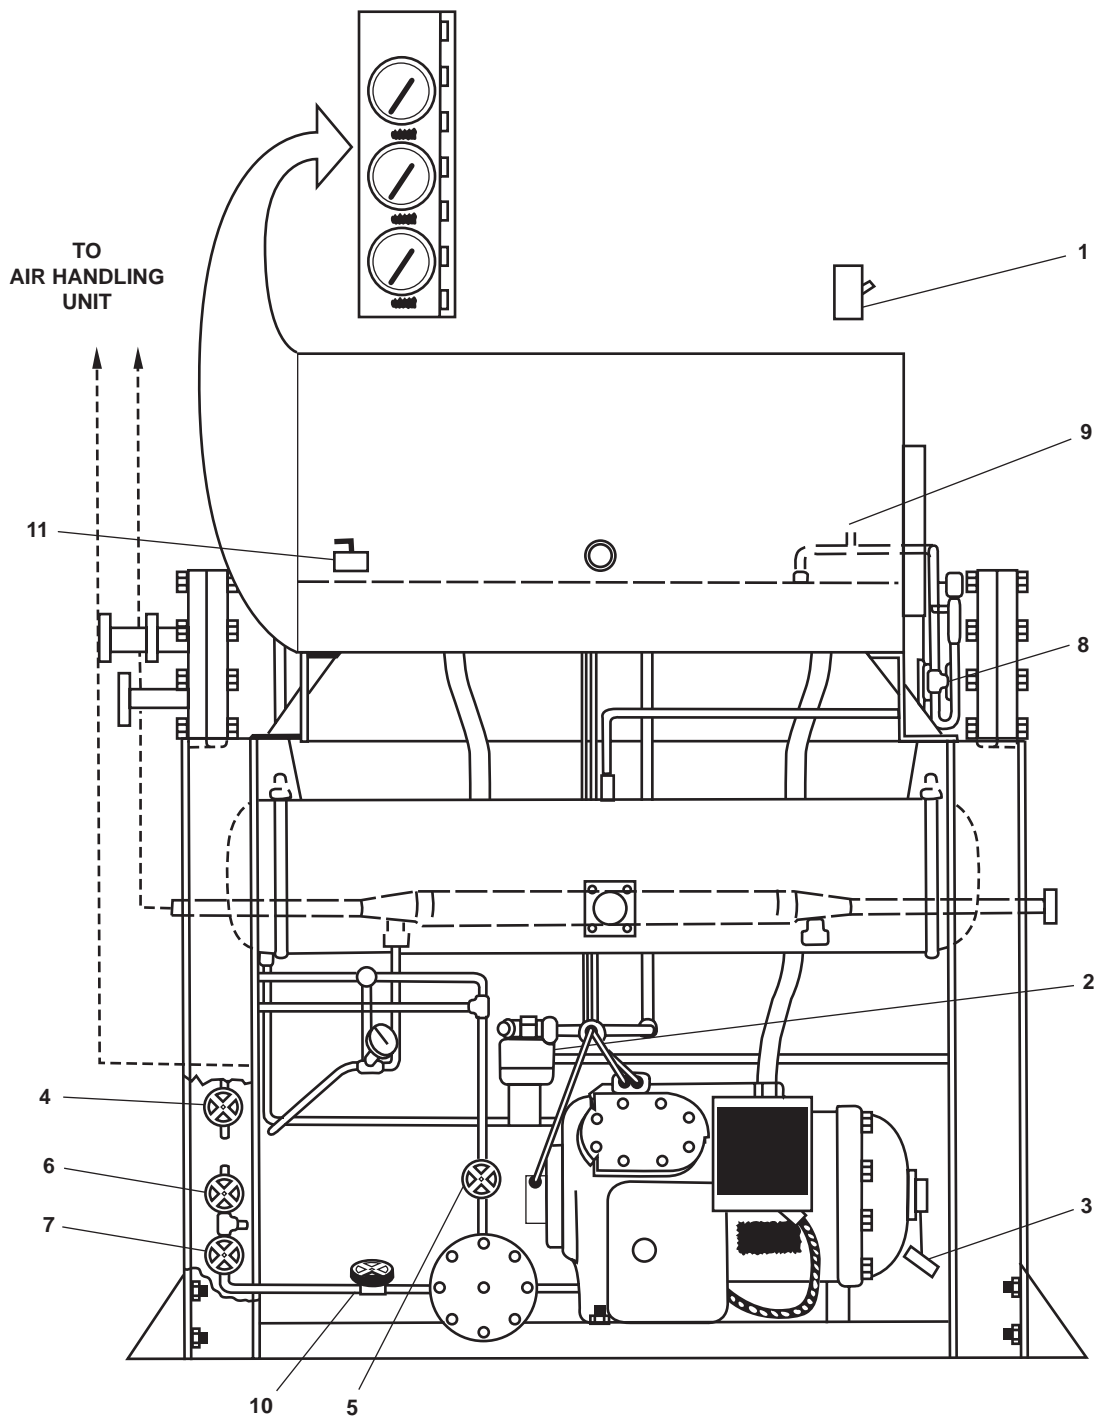

Figure 1. Refrigeration Condenser Unit
1. OPEN COMPRESSOR DISCHARGE valve (figure 1, item 2). Use a refrigeration ratchet wrench.
2. CLOSE COMPRESSOR SUCTION valve (figure 1, item 3). Use a refrigeration ratchet wrench.
3. OPEN CONDENSER OUTLET valve (figure 1, item 4).
4. OPEN DEHYDRATOR OUTLET valve (figure 1, item 5).
5. CLOSE DEHYDRATOR BY-PASS valve (figure 1, item 6).
6. OPEN DEHYDRATOR INLET valve (figure 1, item 7).
7. OPEN RELIEF VALVE BY-PASS valve (figure 1, item 8).